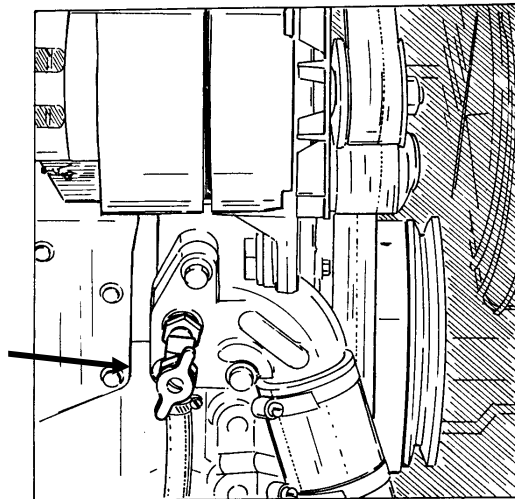

Fig. 5.12. Cab Heater Water Valve
4. Open the cab heater water valve on the engine block (Fig. 5.12).